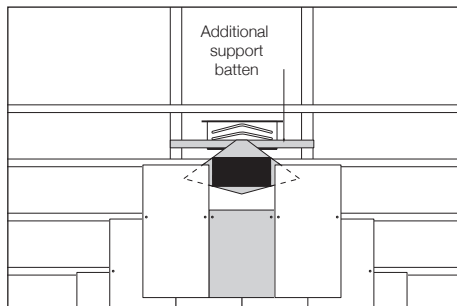

Fig. 2 – Secure additional support batten
- 3 Secure an additional support batten 20mm above the cut batten. Cut a 354mm horizontal slit in the underlay 50mm – 60mm centrally above the additional support batten. Slide the underlay protector tray above the additional support batten until the protector's up-stand can be secured to the lower edge of this batten. Nail the uppermost 'V' of the underlay to the rear of the additional support batten (Fig. 2).